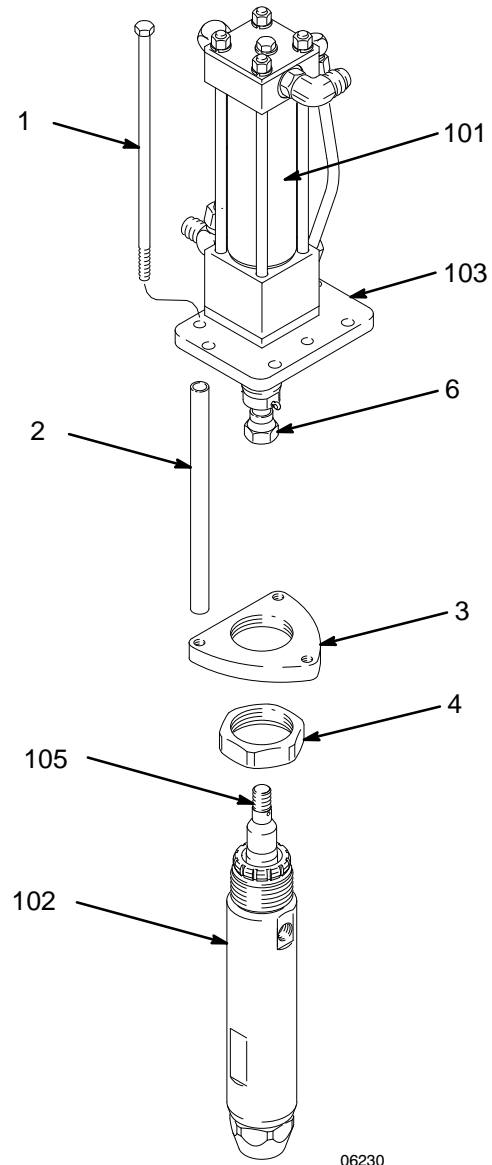

Fig. 3
1. Hand-tighten the locking nut (4) on the displacement pump (102).
2. Place the lower tie plate (3) above the locking nut (4). Tighten the locking nut against the lower tie plate. Torque to 140–150 ft-lb (190–203 N•m).
3. Have one person hold the displacement pump while another connects it to the motor (see the **CAUTION** above). With two adjustable wrenches, use one to prevent the coupler (6) from turning, and the other to firmly attach the displacement rod (105). See Fig. 3.
4. Attach the displacement pump to the hydraulic motor by inserting the three bolts (1) through the upper tie plate (103), tie rods (2), and the lower tie plate (3). Torque to 20–30 ft-lb (27–40 N•m).